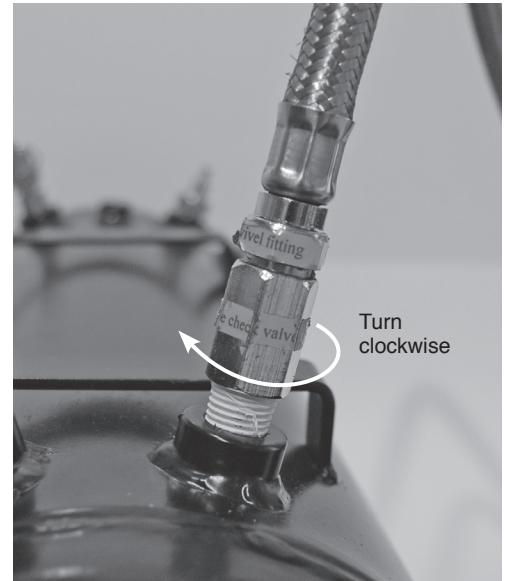

Fig. 3 Connecting the metal braided hose
HOSE INSTALLATION (Fig. 3 and Fig. 4):
6. If the compressor was separated from the tank, connect the stainless steel braided hose from the compressor to tanks inlet port. (Fig. 3.) **IMPORTANT:** Make sure the threaded fitting on the end of the braided hose has either been wrapped with Teflon® tape or coated with pipe sealant to prevent air leaks.